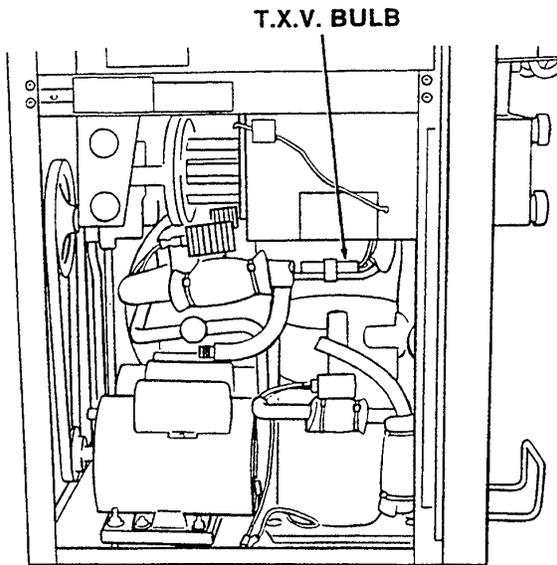

Figure 38. Bulb Installation
6. Install the bulb on the suction line exiting the evaporator (Figure 38). The T.X.V. bulb should always be mounted on the top of the horizontal line. Good contact between the bulb and suction line is necessary for proper operation of the valve. The bulb must also be well insulated.